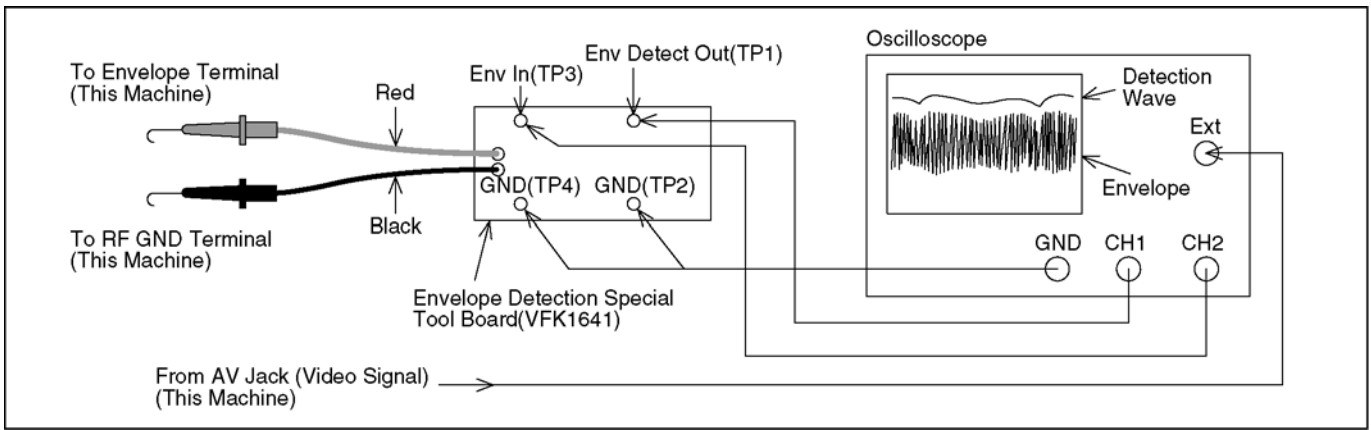

Fig. D2
2. The envelope detection special tool board (VFK1641) is connected to this machine as shown in Fig. D2 and D3.
3. The envelope detection special tool board is connected to oscilloscope as shown in Fig. D2 and D3. Connect the AV Jack of this machine and the oscilloscope by using the Multi cable.